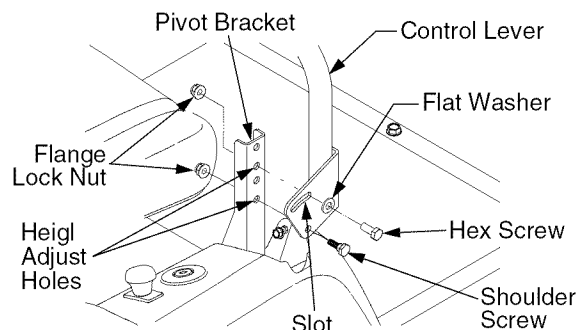

Figure 22
- While supporting the control lever to keep it from falling, remove the hex insert flange lock nut and shoulder screw from the bottom of the control lever and pivot bracket. Refer to Figure 22.
If not already loose, loosen the flange lock nut and rotate the control lever either forward or rearward to the desired position. See Figure 22.